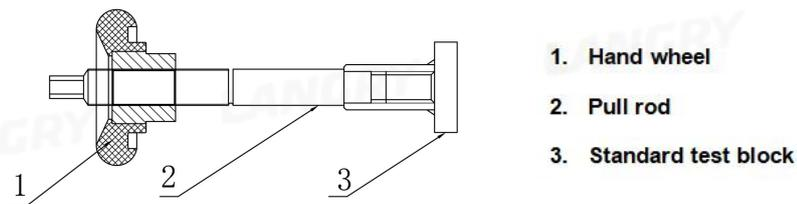

Fig. 3 Connection diagram of pull rod
3.2 See Fig. 3 for the inspection accessories of facing brick